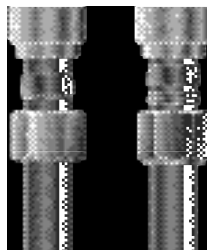
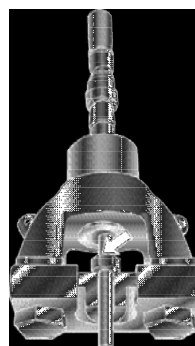

Figure 1
Figure 3
2. Assemble CPI™ nut, CPI™ Ferrule and body die onto tubing as shown in figure 1. Be sure that the tapered end of the Ferrule points toward the body die.
3. Insert Tube Assembly, (Figure 1) into Nut Support as shown in Figure 3.